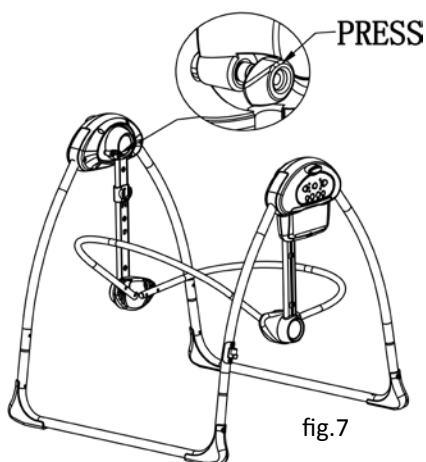

fig.7
7. Press the lock as indicate arrow, the swing seat is fixed until the lock released as fig.7.